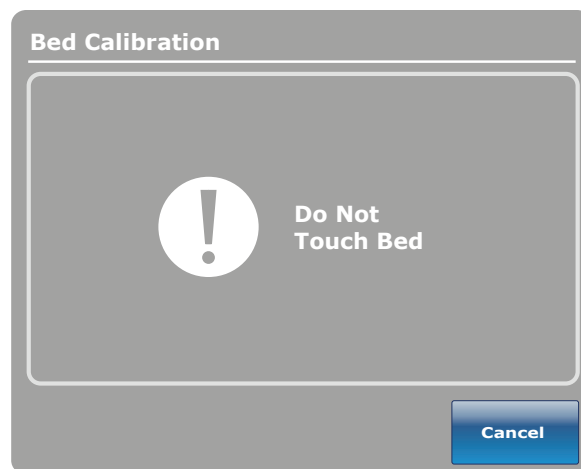

Figure 12: Do Not Touch Bed Screen
10. Press the  button when done. The "Do Not Touch Bed" screen will appear as shown in Figure 12.